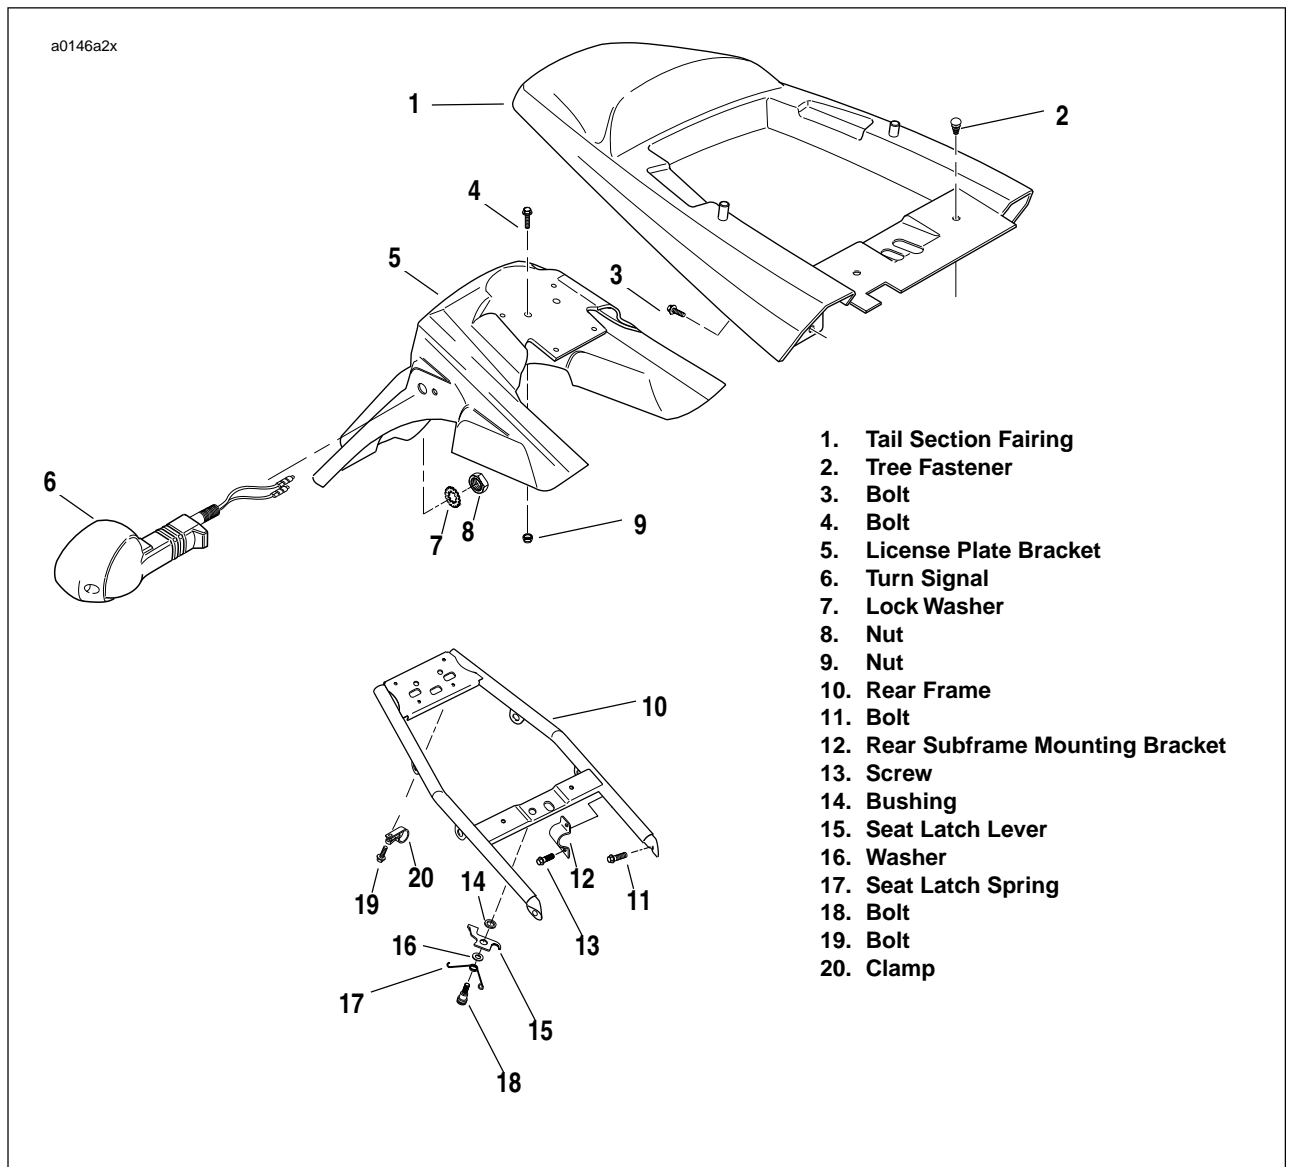

Figure 2-102. Tail Section
2. See Figure 2-102. Remove fasteners and clamp (3, 20 and 21).
3. Remove tree fasteners (2).
4. Remove tail section (1).
3. See Figure 2-102. Remove fasteners (13) and bracket (12).
4. Remove fasteners (11).
5. Slide rear frame assembly (10) out.